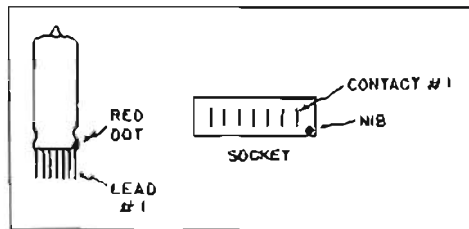

FIG. 1
THE FLAT TYPE OF TUBE IS KEYED BY A RED DOT AT ONE CORNER. THE LEADS READ FROM RIGHT TO LEFT, WITH LEAD #1 NEAREST THE RED DOT. THE SOCKET IS KEYED BY A DOT (OR NIB) ON THE TOP SURFACE OF THE SOCKET. THE SOCKET CONTACT NEAREST THIS NIB IS CONTACT #1. SEE FIG. 1 BELOW.
3. Classify the ballast unit to be tested according to its RMA BASE WIRING. The push buttons then to be depressed (one at a time), will correspond with the numbers designated on the appropriate schematic in Fig. 1 below;
For example, Ballast type BK86A is an "A" type base wired unit. It is checked by referring to diagram "A" of Fig. 1, which reveals that button 3, then button 7 must be depressed. Neon lamp should glow as each of these 2 buttons is depressed. (Should the ballast incorporate a jumper (for example from pin 3 to pin 4 as for ballast designation BK86AJ), neon glow must also be obtained when button 4 is depressed.)